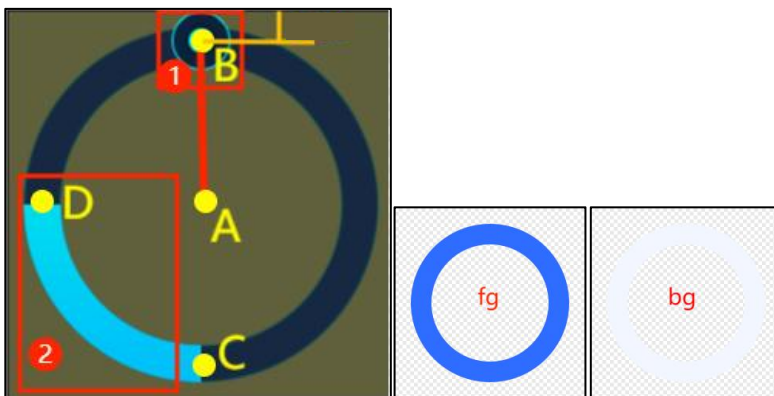
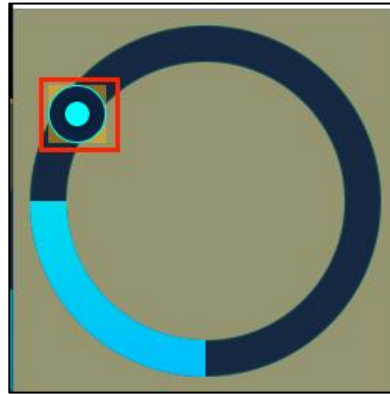

Figure 6-7: Circular Touch
Figure 6-9: slide_R
- foreground** : Foreground image, as the middle picture (blue circle) shown in Figure 6-7.
- background** : Background image, as the right picture (white circle) shown in Figure 6-7. The width/height of the foreground and background images must be the same.
- slideButton** : Slider Button, as ❶ shown in Figure 6-7
slide_R : The distance from A to B, as shown in Figure 6-7. Move the slider button to the center of the circular rail as shown in Figure 6-9, UI_Editor-II will auto calculate the value.
touch_R : Radius of the touch area. As shown in Figure 6-7, based on the center of B.
As shown in Figure 6-7, C represents 0 degree, and the rotation degree will increase when rotating clockwise. In addition, startAngle cannot be larger than finalAngle ($0^\circ \leq \text{startAngle} < \text{finalAngle} \leq 360^\circ$). This widget cannot be set to increase the degree counterclockwise.